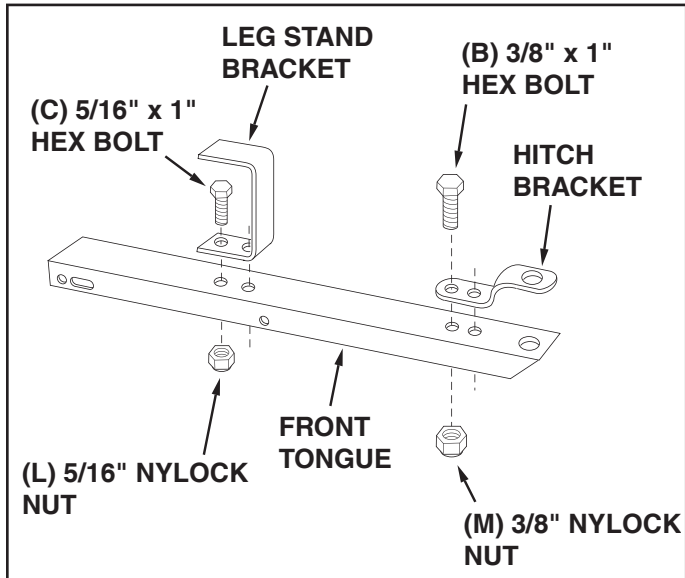

FIGURE 4
- Assemble the hitch bracket to the front tongue using two 3/8" x 1" hex bolts (B) and 3/8" nylock nuts (M). **Tighten.** See figure 4.
- Assemble the leg stand bracket to the front tongue using two 5/16" x 1" hex bolts (C) and 5/16" nylock nuts (L). **Tighten.** See figure 4.